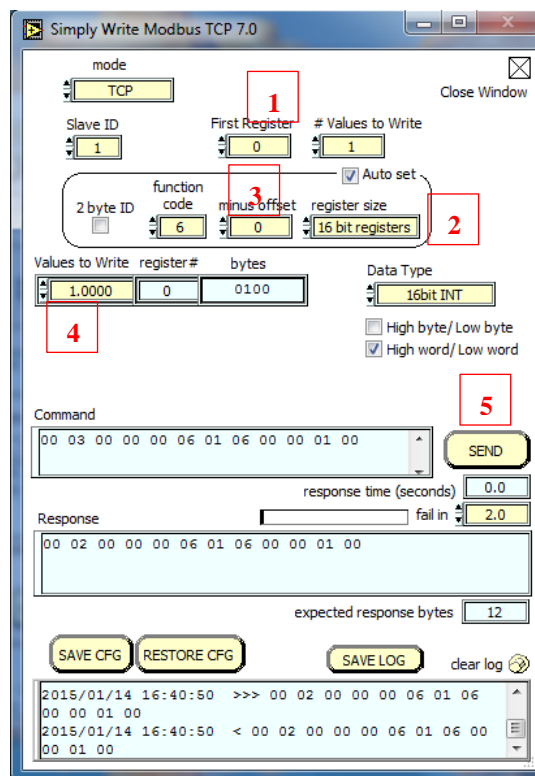

Figure 9.12: Simply Write Modbus Screen
- The changes can be observed in the main window, see **Figure 9.12**.